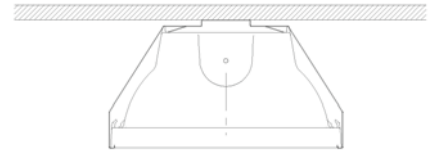

Fig 6
4. Rotate up and snap the other side of the housing into the bracket (Fig 6).